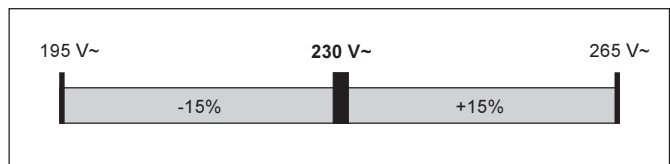

Fig.12 Tolerance range of the mains voltage
N.B.! The voltage delivered by the generator must NEVER overshoot or undershoot the range shown in Fig.12 .